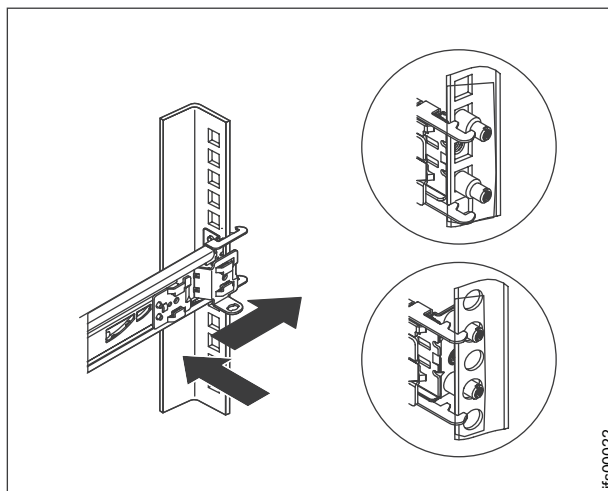

Figure 38. Installing the rear end of the slide rails
4. From the front of the rack, line up the two pins on the rear of the slide rail in the selected unit on the rear of the rack. Push the rails so that the pins go into the holes and slide the rails into the rack to lock the rear of the slide rails into the rack. Refer to Figure 38